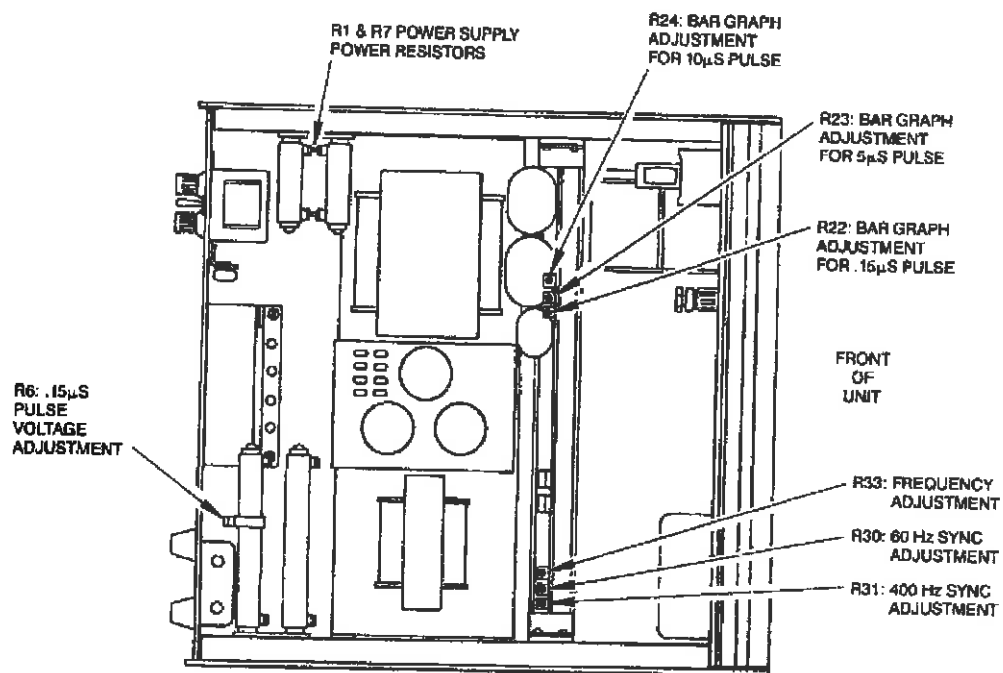

FIG. 12 TOP VIEW TEST AND ADJUSTMENT POINTS
7.5.1 Turn the unit over so that the top is accessible. See Fig. 12. Locate the two high wattage resistors, R1 and R7, on the right side toward the rear of the unit as viewed from the front. Also locate the two resistors, R5 and R6, on the left side as viewed from the front.
7.6.2 With the equipment setup as in the previous step, locate the high wattage resistor R6 (Fig. 12). This is the adjustable resistor next to a fixed resistor mounted on the left side near the rear of the unit as viewed from the front.
7.8.1 Depress the 10.0  $\mu$ S pushbutton. Turn the unit over so that the large printed board is accessible and is viewed from the front of the unit (Fig. 12). Rotate the AMPLITUDE knob for exactly 400 volts, peak, as viewed on the oscilloscope.
7.9.2 A pulse should fall on every division of the oscilloscope. If not, adjust the rightmost trimpot, R33, until this condition is achieved (Fig. 12).
When syncing with a 60 Hz line, rotating the PULSE POSITION knob from one end to the other should move the spike across 8 1/2 divisions on the oscilloscope screen. When syncing with a 50 Hz power line, rotating the PULSE POSITION knob from one end to the other should move the spike across ten divisions on the oscilloscope screen. If these conditions are not found, adjust the middle trimpot, R30, (in the left group of trimpots) until this is possible (Fig. 12).
Depress the pushbutton marked 400 Hz SYNC. Under these conditions, the full range rotation of the PULSE POSITION knob should move the spike across 6 1/4 divisions on the oscilloscope screen. If not, adjust the leftmost trimpot, R31, in the left group until this condition is reached (Fig. 12).